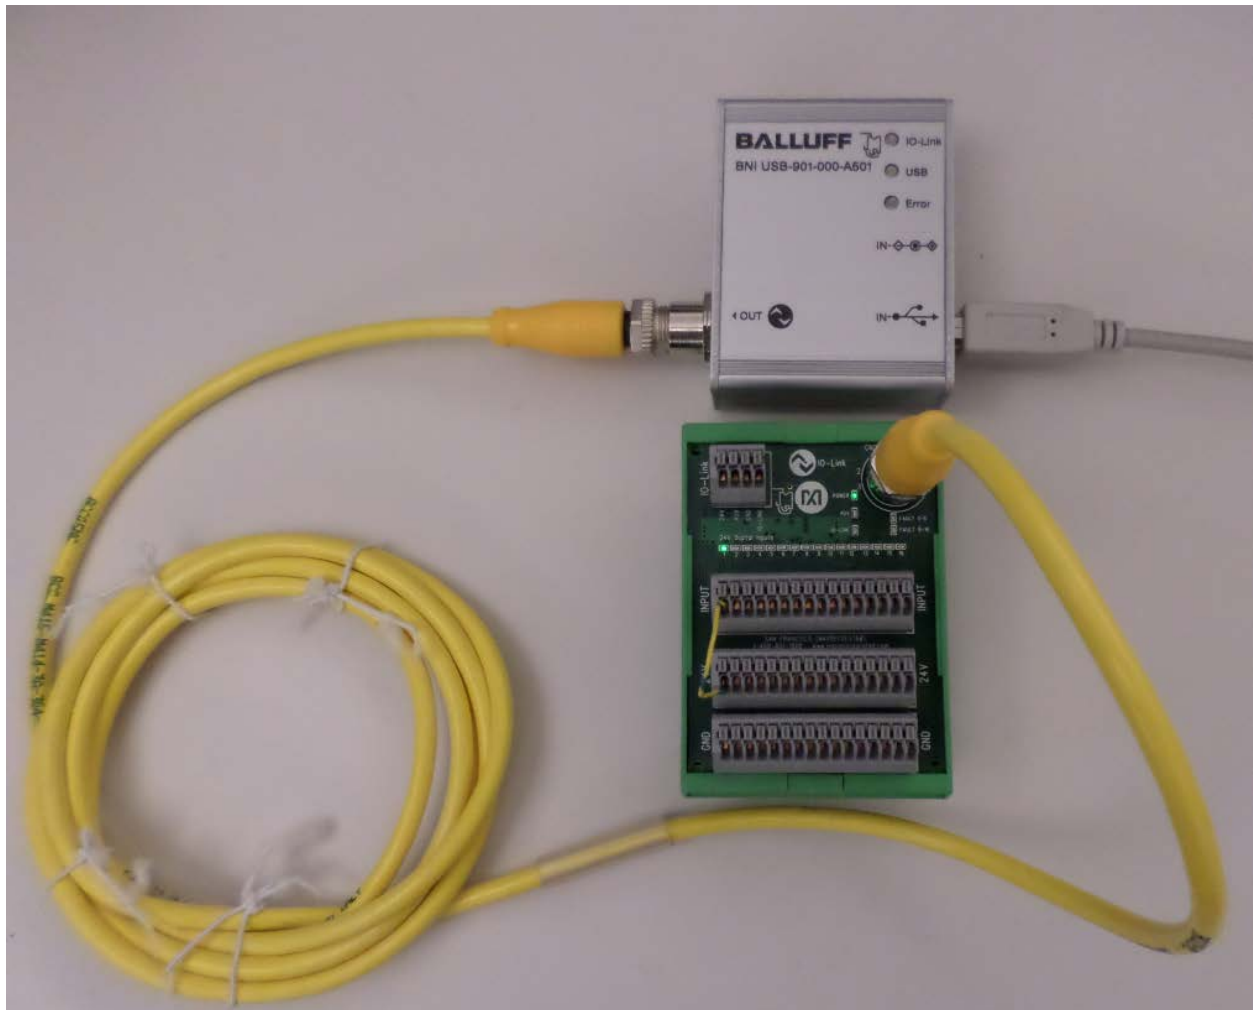

Figure 1. MAXREFDES36# Board Connected to a Balluff USB IO-Link Master
- 1) Connect the A-to-B Type USB cable from the PC and yellow IO-Link cable to the Balluff USB IO-Link master (silver box with part number BNI USB-901-000-A501) as shown in Figure 1.
1. Connect the A-to-B Type USB cable from the PC and yellow IO-Link cable to the Balluff USB IO-Link master (silver box with part number BNI USB-901-000-A501) as shown in Figure 1.